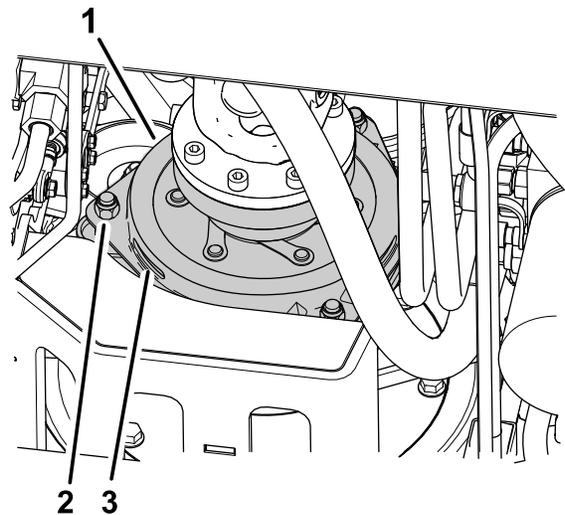

Figure 81
3. Adjust the air gap so that a 0.3 mm (0.012 inch) feeler gauge slides in between the clutch lining and friction plate with light pressure (Figure 81).
Note: You can decrease the gap by turning the adjusting nuts clockwise (Figure 81). The maximum service gap is 0.6 mm (0.024 inch). Adjust all 3 air gaps to 0.4 mm (0.012 inches).